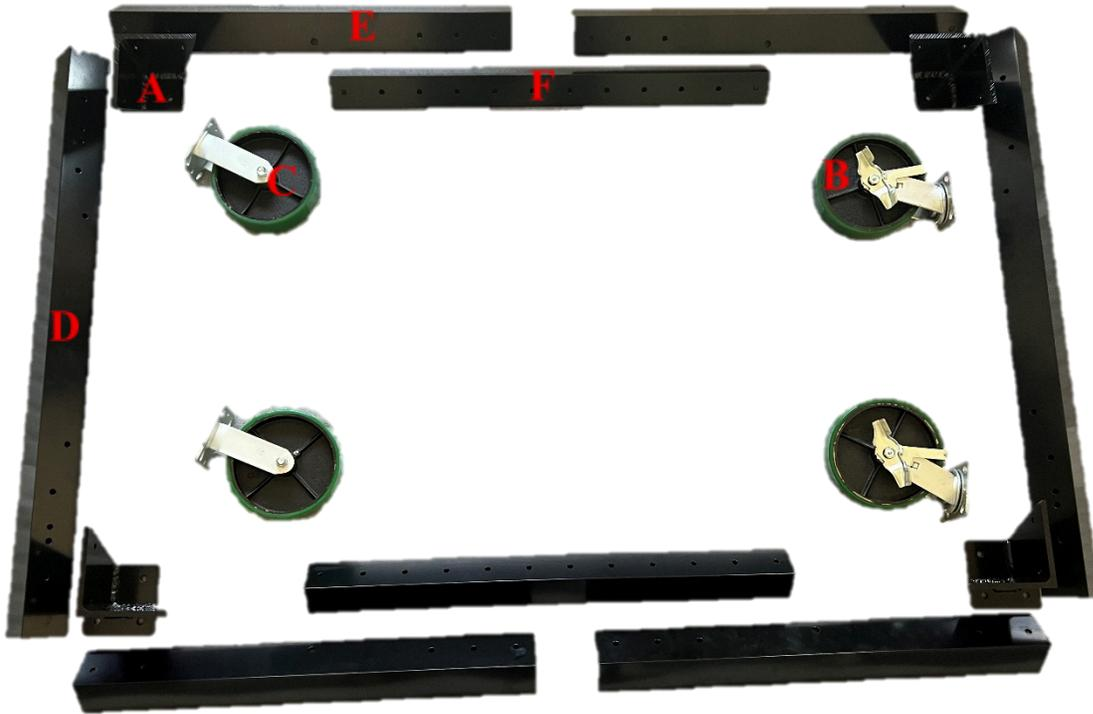

Figure 1. Part Layout
Step 1: Lay out all components face down in the shape of the dolly with the holes in the rails facing in to make sure all rails are in the correct position (Figure 1). The Side Rails should have the sides with 2 holes closest to the legs and the side with 3 holes towards the center.